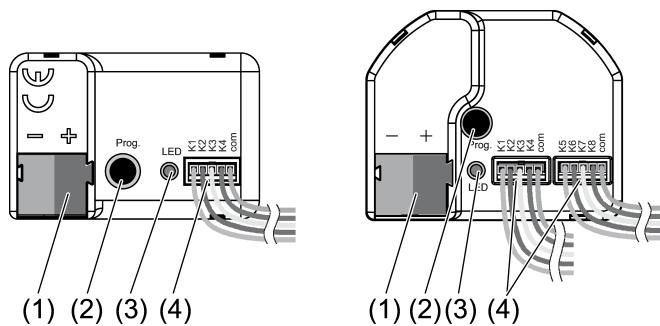

Figure 1: Device components
- Connect bus with a KNX device connection terminal to KNX connection (1) (see figure 1).